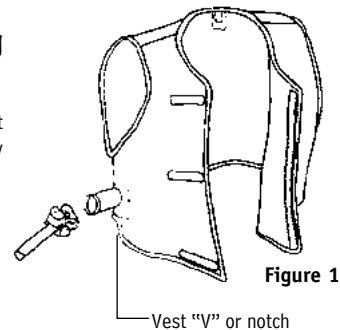

Figure 1
1. Insert the muffler end of the cooling vest connector hose well into the air entry sleeve of the vest (Figure 1).